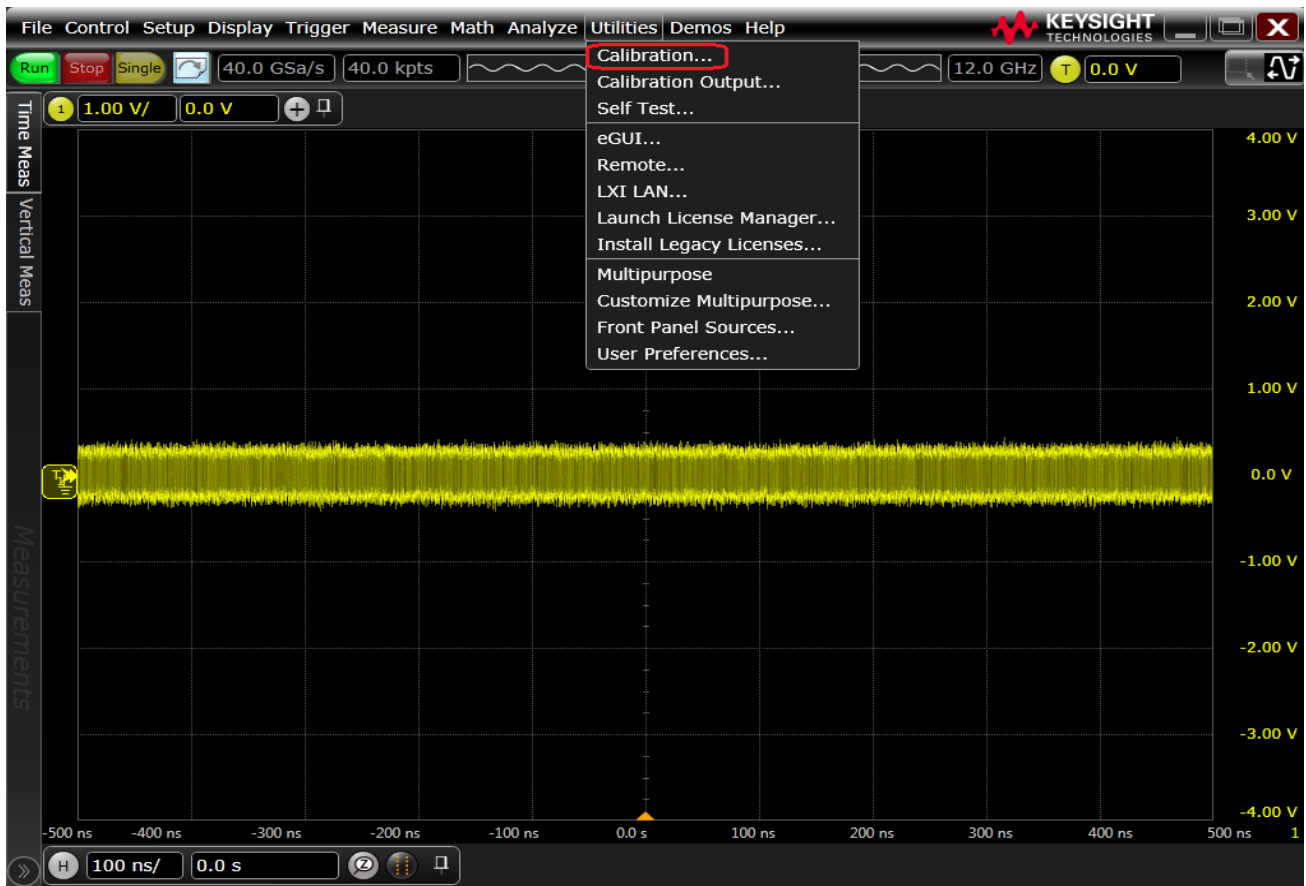

Figure 46 Accessing the Calibration menu
- 3 Referring to Figure 46 below, click **Utilities>Calibration** menu to open the **Calibration** dialog box.